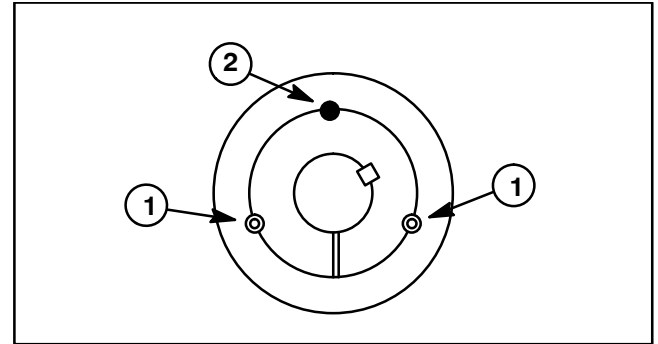

Figure 16
6. Remove four (4) cap screws (item 10) and lock washers (item 11) that secure gearbox assembly to gearbox brackets.
7. Remove fasteners that secure left side gearbox bracket (item 3) to deck mounting plate. Remove bracket from deck.
9. Remove two (2) set screws that secure taper lock bushing to drive pulley on gearbox shaft.
10. Thread one of the removed set screws into threaded hole of bushing (Fig. 16). Tighten set screw to loosen bushing from pulley hub.
3. Lightly oil threads of set screws and install screws into threads of pulley (Fig. 16). Alternately and evenly tighten set screws to a torque from **180 to 250 in-lb (20 to 28 N-m)**.
6. Position and secure left side gearbox bracket (item 12) to deck mounting plate.
7. Secure gearbox assembly to gearbox brackets with four (4) cap screws (item 10) and lock washers (item 11).